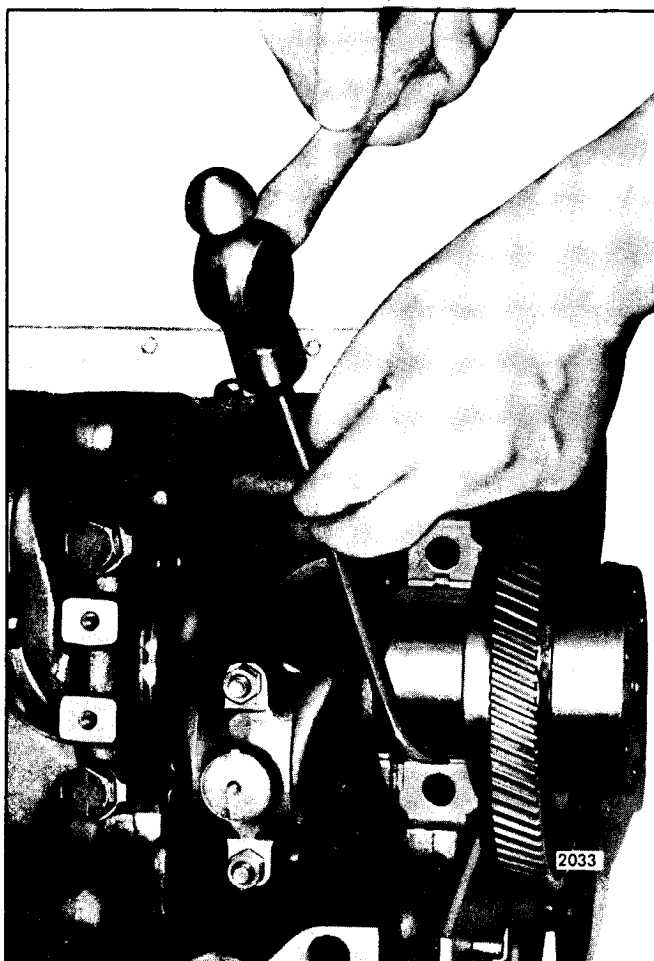

Fig. 5 - Removing Upper Rear Main Bearing Shell
- b. Remove the rear main bearing upper shell by tapping on the edge of the bearing with a small curved rod, revolving the crankshaft at the same time to roll the bearing shell out (Fig. 5).